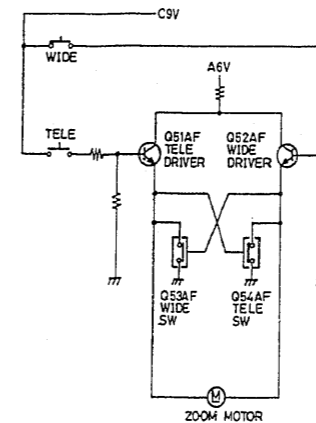

Fig. 1 Zoom Motor Driver
1. RELATED CIRCUITS (Fig. 1)
1-1. Zoom Motor Driver (Fig. 1)